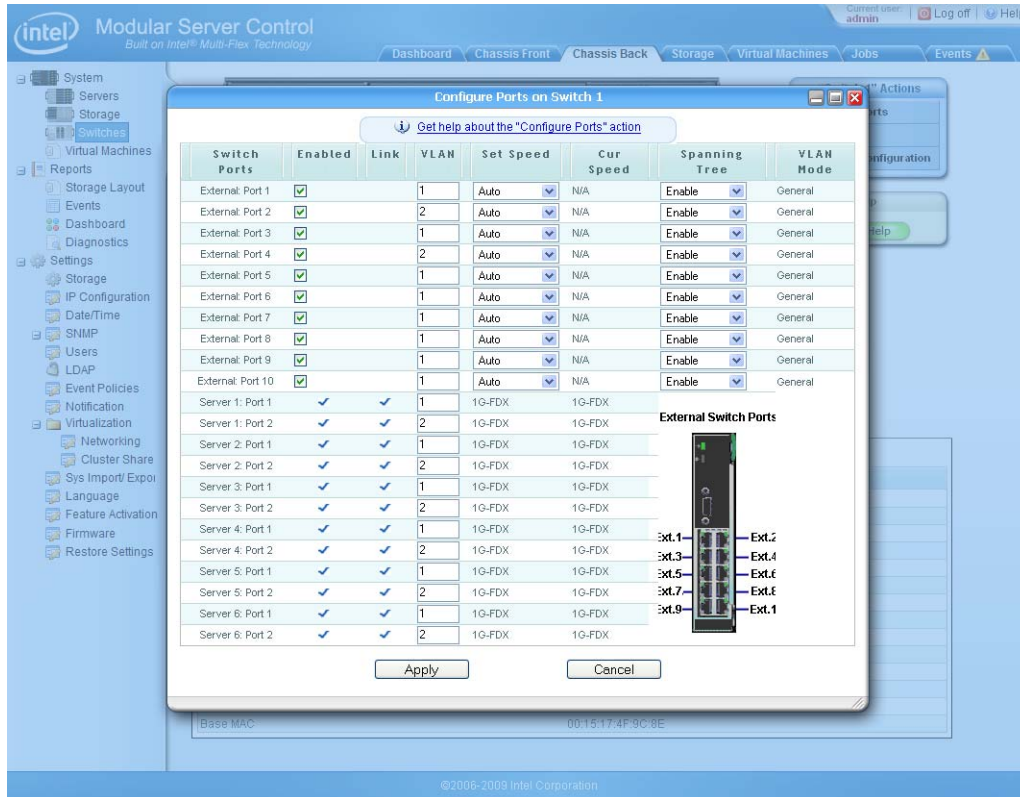

Figure 52. Configure Ports Dialog Box
- The Configure Ports action menu item enables an IT administrator to quickly and easily modify port and Virtual LAN (VLAN) settings. Figure 52 displays the Configure Ports dialog box within the Intel® Modular Server Control UI.